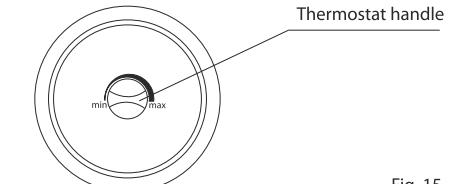

Fig. 15
- for MS2 series horizontal-type water heaters: press the button, located in the center of the thermal switch, placed near the heating element (with a round shape), until it clicks, Fig. 15;